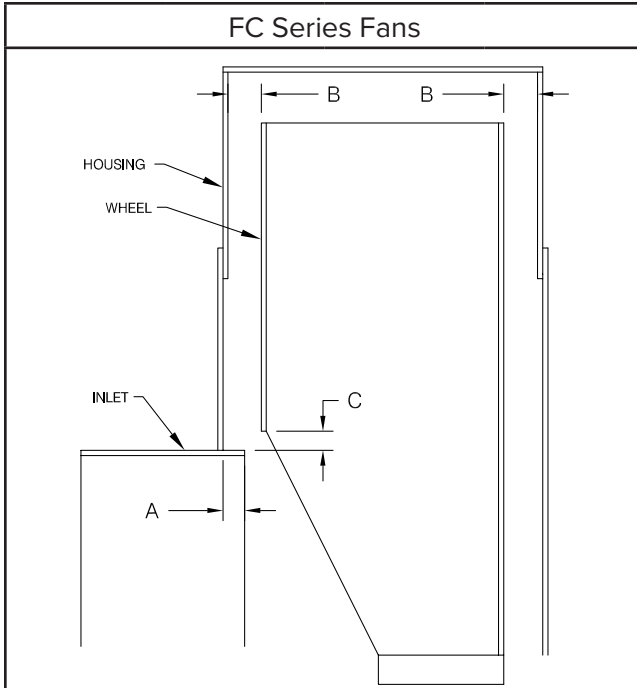

Figure 4
9. When installing a new wheel or inlet section, the proper wheel to inlet clearance must be maintained (see Figures 4 and 5 for correct dimensions for full width wheels).
Check the hub and bushing and remove all foreign material from the fan shaft, the hub and the bushing. Inspect the surfaces and edges to insure that there are no burrs. Clean the machined surfaces of any grit or dirt and coat with a light film of oil. Place the fan wheel onto the shaft inside the housing. Slide the bushing onto the shaft and into the hub. Slide the wheel forward on the bushing and insert the bolts through the bushing flange into the three tapped holes in the hub. Check the wheel clearances inside the housing (see Figures 4 and 5).